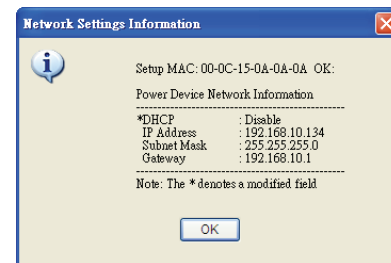

Figure 4. Setup IP Address successfully message.
8. If IP address is successful, you will see a message that the IP set up is OK, as shown in figure 4.